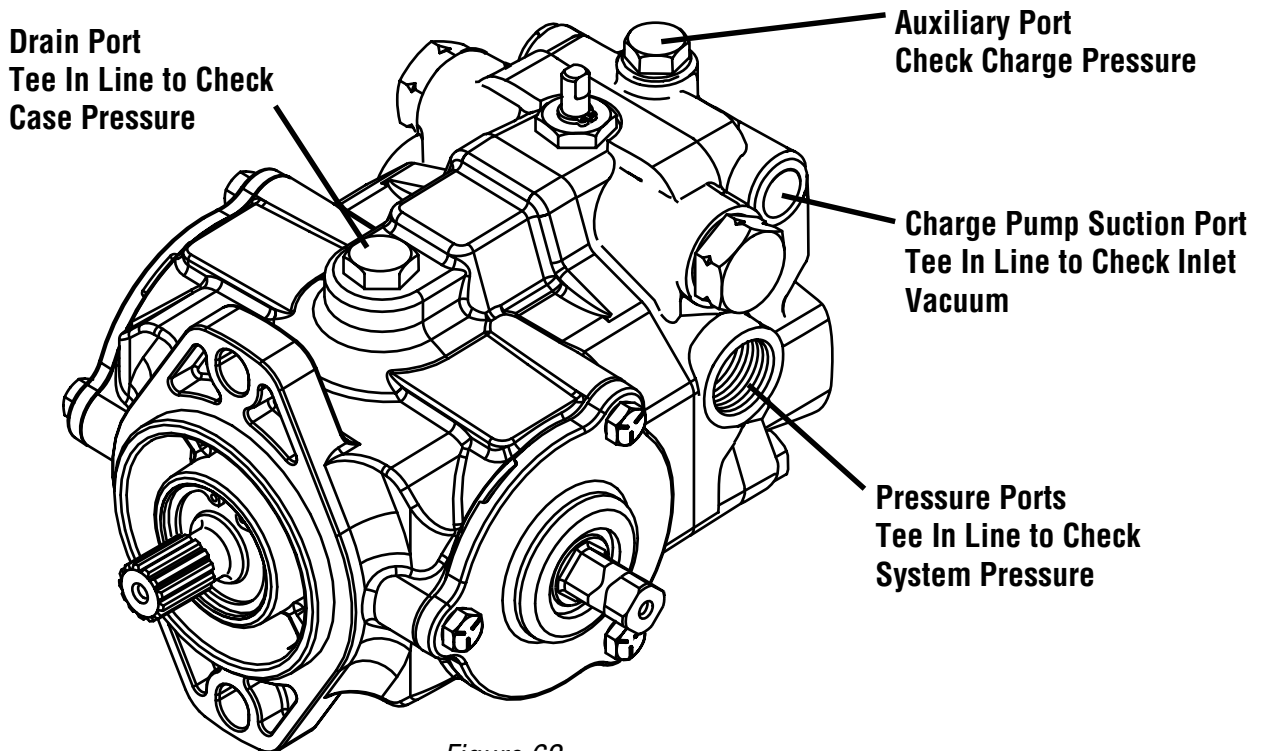

Figure 62
- a. See figure 62 for location of pressure gauge installation.